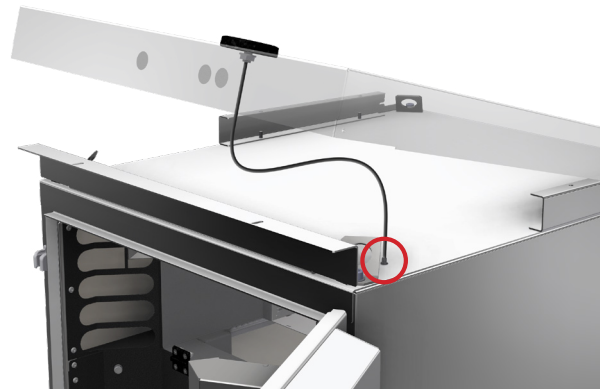

Figure 3.5 Disconnect antenna cable
- Lift up roof, disconnect antenna cable (if present) and remove cabinet roof (see *Figure 3.5*).